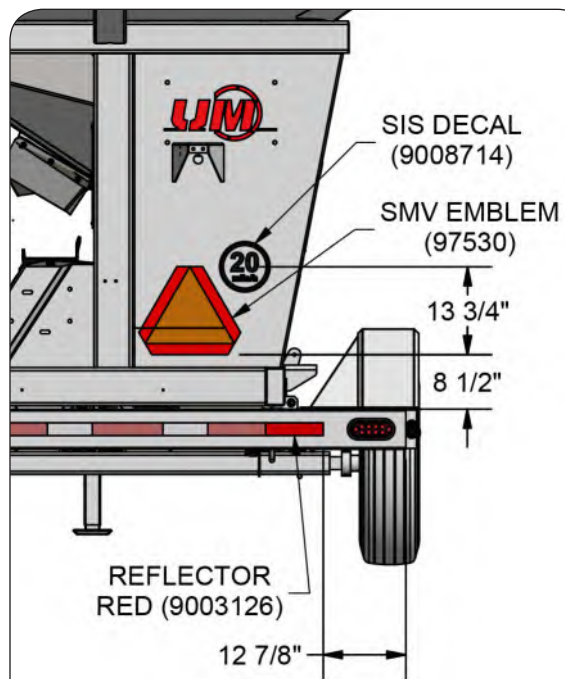

FIG. 2-20
1. Center and attach the SMV Emblem (95730) to the rear of the unit 8 1/2" from the frame. (FIG. 2-20)
2. Attach the SIS decal (9008714) to the rear of the unit 13 3/4" from the bottom of the SMV Emblem (95730). (FIG. 2-20)
3. Attach the red reflector (9003126) 12 7/8" from the right-hand side of the bumper. (FIG. 2-20)